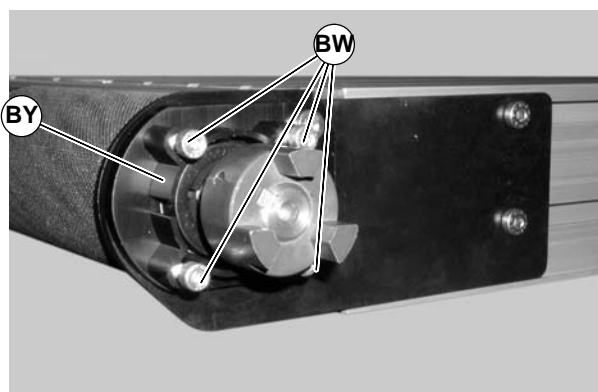

Figure 56
- 4) Remove the four (4) lock screws (BW of Figure 56) and the short side drive guard (BY).